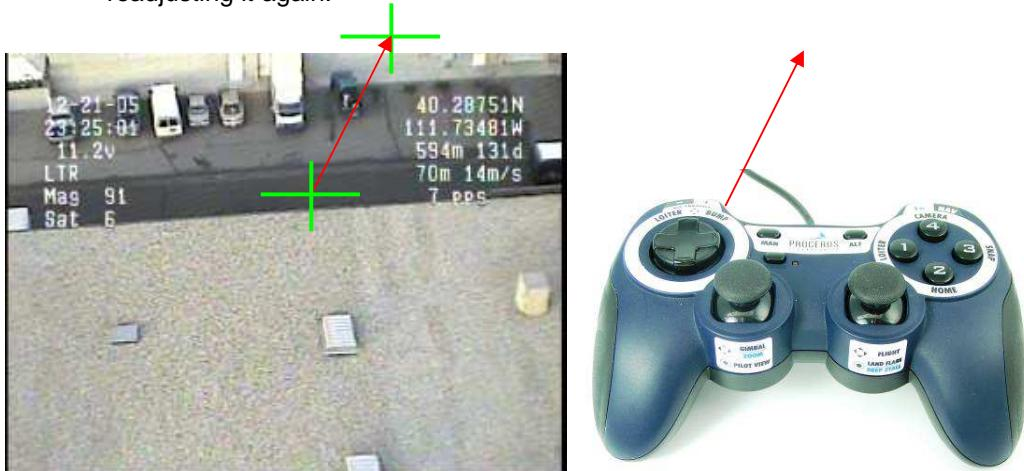

Figure 4-4 Adjusting Loiter Center with Gamepad
7. Depending on when the UAV received the Loiter Now command, the estimated position may not be exact. Users can adjust the position of the Loiter Now circle using the gamepad, as illustrated in Figure 4-4. As the user watches the video and notices that the object of interest is not in the center of the video. Using the direction arrows on the gamepad, the user can push in the direction of object of interest. After clicking the arrow pad, the **Loiter Now** command on the map will change position slightly causing the airplane to readjust itself. Allow the UAV some time to get back on course before readjusting it again.